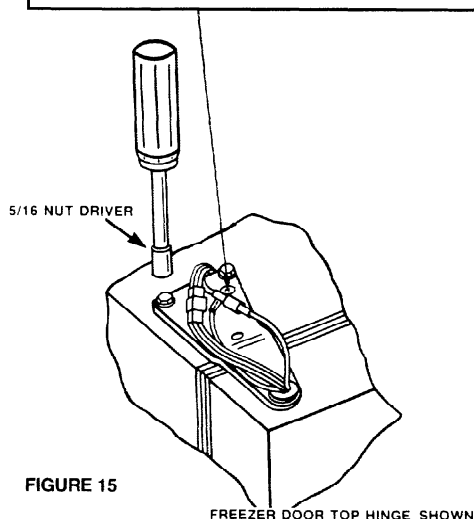

FIGURE 15
6. Remove the upper door hinges, (3) screws per upper hinge. See Figure 15.